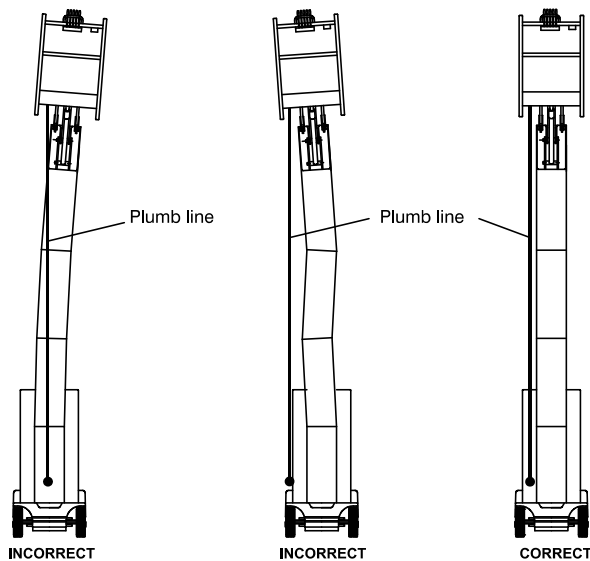

Figure 5-28. Mast Vertical Alignment
13. Fully raise the mast and use a plumb line to ensure that the vertical alignment of the mast sections is correct (See Figure 5-28.).